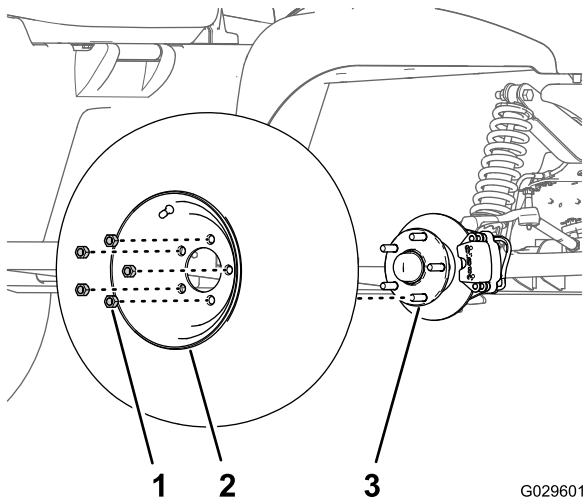

Figure 30
2. Remove the 5 lug nuts that secure the wheel to the hub (Figure 30).
4. Align the holes in the wheel to the studs of the hub and assemble the wheel to the hub with the valve stem outward (Figure 30).
5. Secure the wheel to the hub with the lug nuts (Figure 30), and torque the nuts to 108 to 122 N-m (80 to 90 ft-lb).